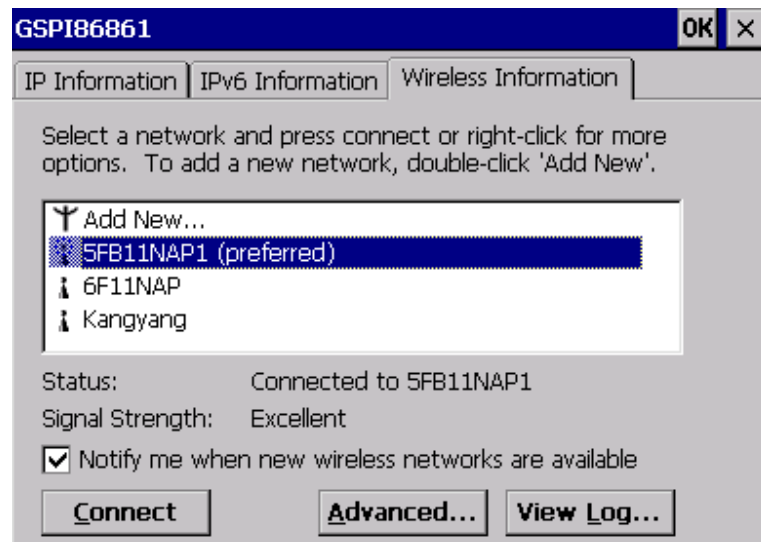

Figure 4-22: Wireless AP Connected
Step 4: The soft AP configuration is finished. (Figure 4-22).